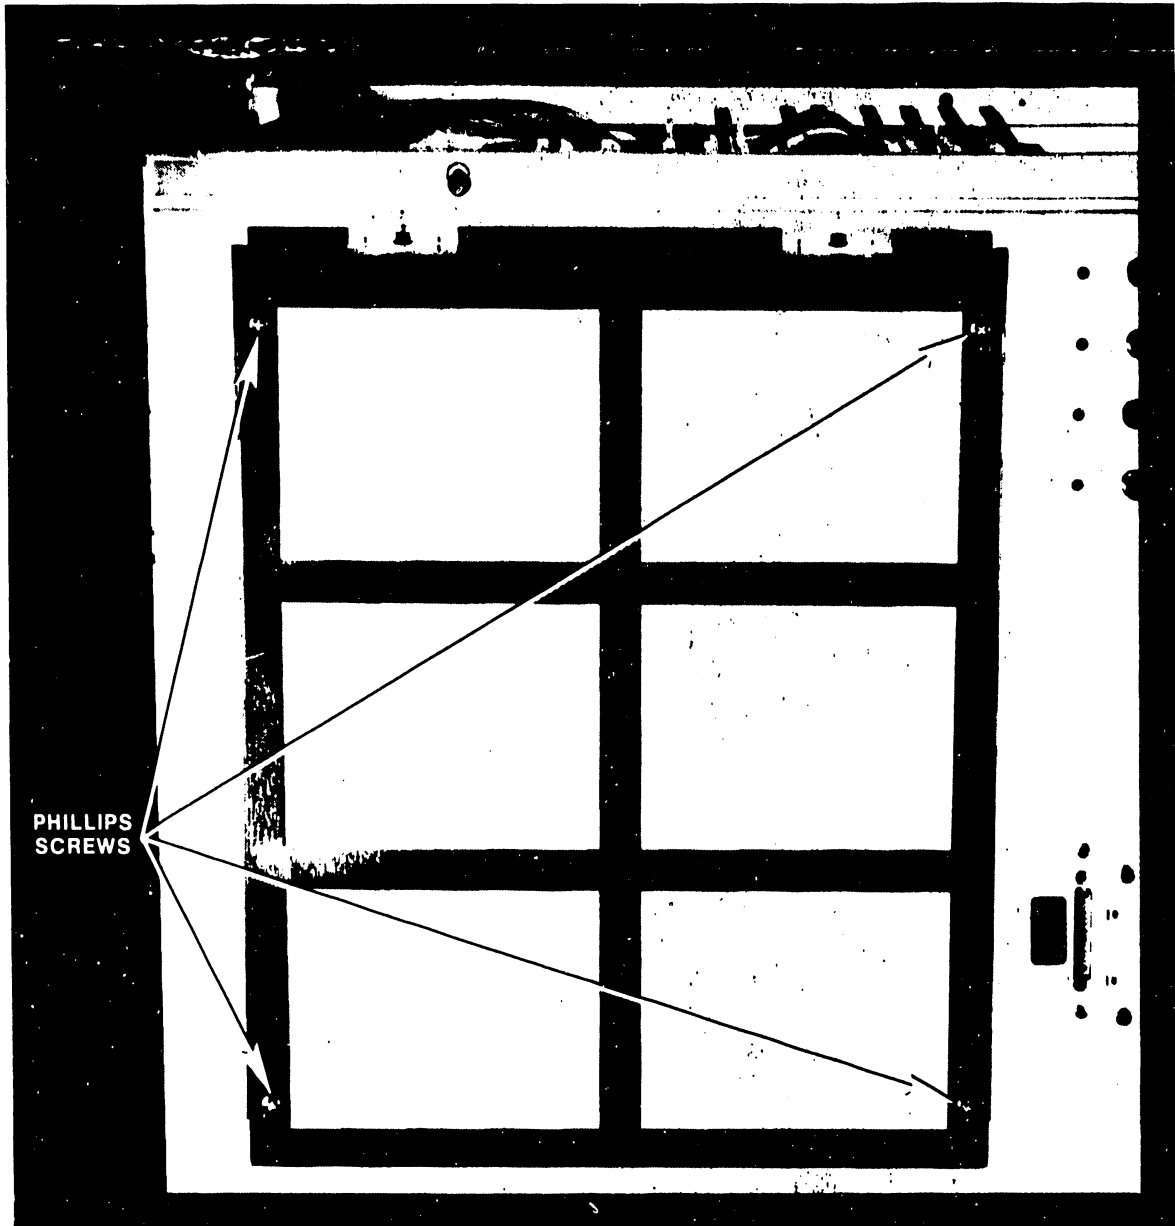

Figure 5-40. Fan Filter Assembly
2. Remove the four Phillips screws securing the fan filter assembly to the back panel. (Figure 5-40.) Remove the filter assembly.